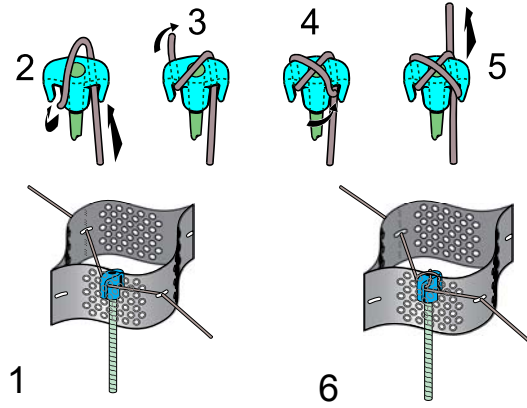

Figure 16 Moore Hitch Non-Slip Connection
+ 0.15 m (6 in) for each ATRA Clip used per Figure 16 Moore Hitch Non-Slip Connection.
- The recommended method of attachment uses the ATRA® Anchor and a mooring hitch Presto Geosystems refers to as the “Moore Hitch”. See Figure 16.